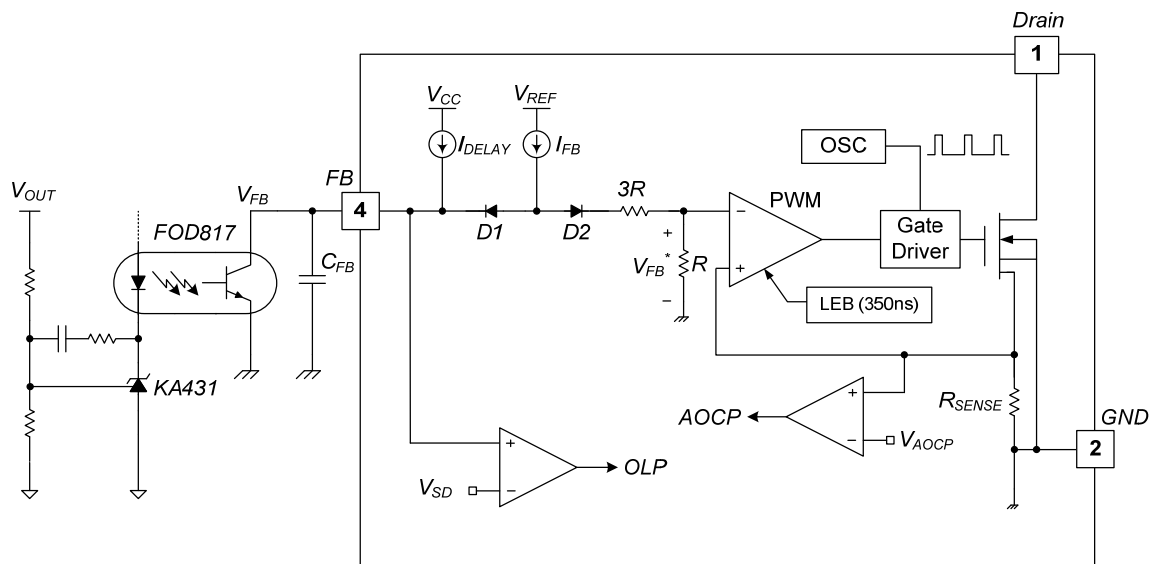

Figure 18. Pulse Width Modulation Circuit
3. Feedback Control: This device employs Current-Mode control, as shown in Figure 18. An opto-coupler (such as the FOD817) and shunt regulator (such as the KA431) are typically used to implement the feedback network. Comparing the feedback voltage with the voltage across the R_{SENSE} resistor makes it possible to control the switching duty cycle. When the reference pin voltage of the shunt regulator exceeds the internal reference voltage of 2.5V, the opto-coupler LED current increases, pulling down the feedback voltage and reducing drain current. This typically occurs when the input voltage is increased or the output load is decreased.
3.1 Pulse-by-Pulse Current Limit: Because Current-Mode control is employed, the peak current through the SenseFET is limited by the inverting input of PWM comparator (V_{FB}^*), as shown in Figure 18. Assuming that the $90\mu A$ current source flows only through the internal resistor ($3R + R \approx 27k\Omega$), the cathode voltage of diode D2 is about 2.4V. Since D1 is blocked when the feedback voltage (V_{FB}) exceeds 2.4V, the maximum voltage of the cathode of D2 is clamped at this voltage. Therefore, the peak value of the current through the SenseFET is limited.